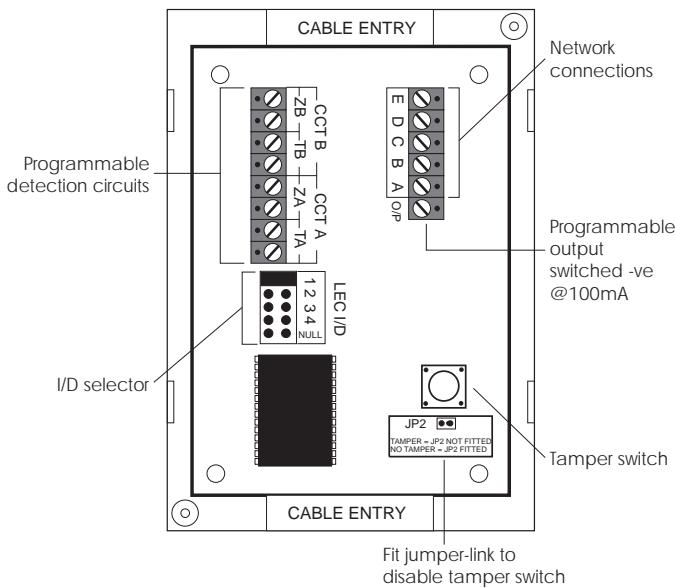

Figure 14 TS700 LEC Layout
2. If the LEC is being fitted inside the control panel you may remove the LEC PCB from its base and secure it to base of the control panel using self adhesive feet. If required, the tamper switch may also be disabled by fitting the jumper link across JP2, see *Figure 14*.
4. Connect "Remote Network" cables and detection circuit cables to the appropriate terminals, see *Figure 14*.